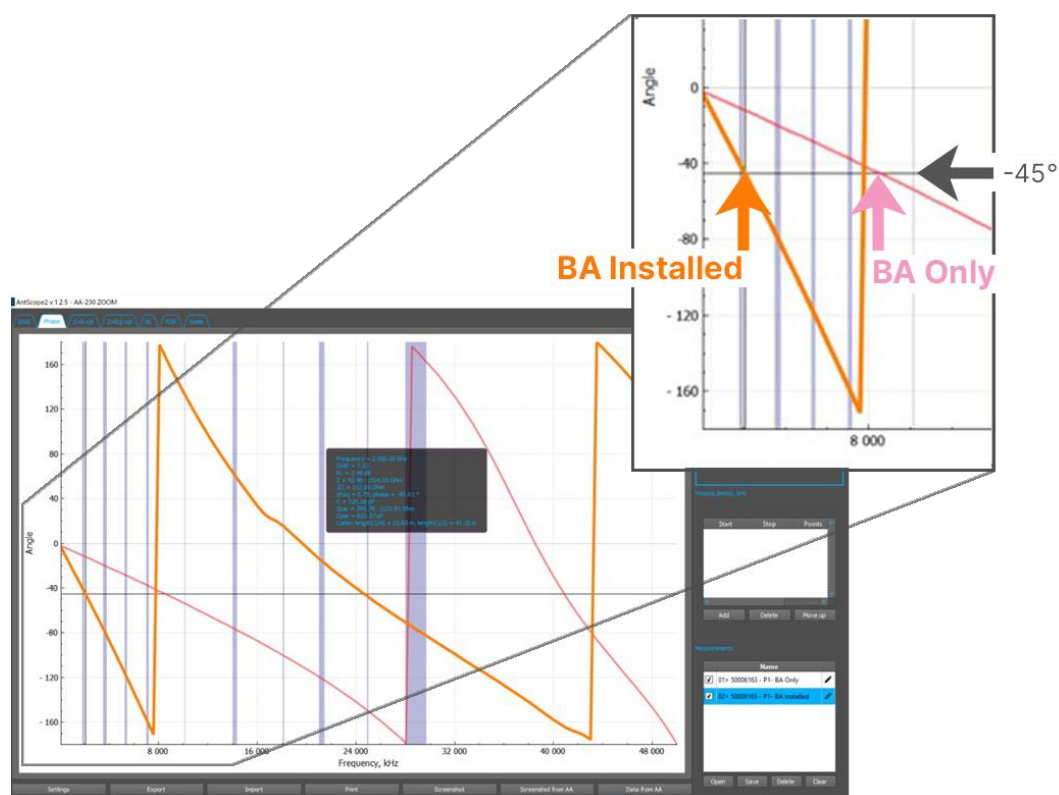

Figure 11-71: Results - typical - frequencies at -45° intersection points
6. Move the cursor over -45° or as close as possible and record the frequencies of both traces at which they initially intersect the -45° line, for example as shown in Figure 11-71. In this example, 'BA Only' initially intersects the -45° line at 8500 kHz, while the 'BA Installed' intersects at 2100 kHz. This result indicates that the BA is successfully connected to the bushing tapping point, which means that the installation can proceed.